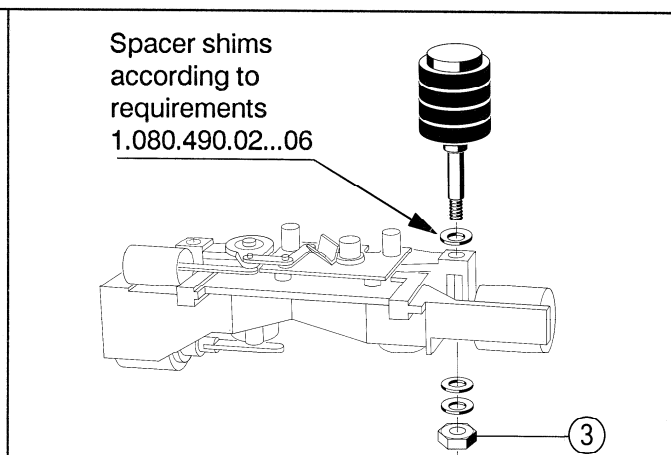

Fig. 7
- d) Fasten nut (pos. 3). Recheck the alignment of the axle as mentioned under paragraph a, b and c
- Check that the tape runs accordingly to the height of the tape path. If necessary aligne the height of the pinchroller with spacer shims (see Fig. 7) Recheck the position of the mark (M). (See Fig. 8)